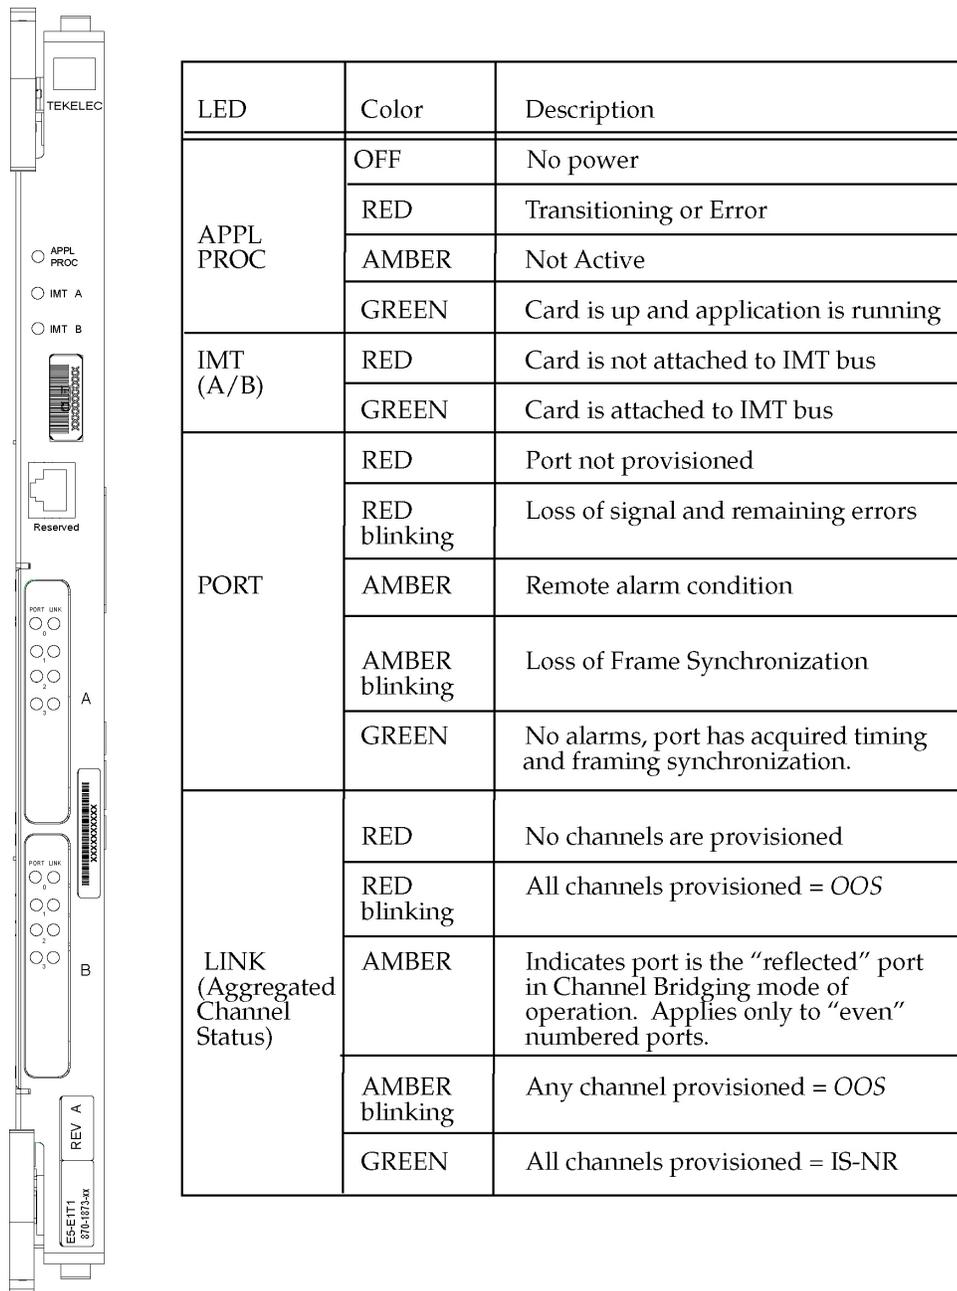

Figure 54: E5-E1T1
Three LEDs provide conventional EAGLE card indications of APPL Proc operation, and IMT A and IMT B operation. Up to sixteen (16) LEDs, two for each E1/T1 port, are used to indicate port and channel (signaling link) status. One LED per E1/T1 port indicates E1/T1 port Status and one LED per E1/T1 port indicates aggregated channel status. See Figure 54: E5-E1T1.